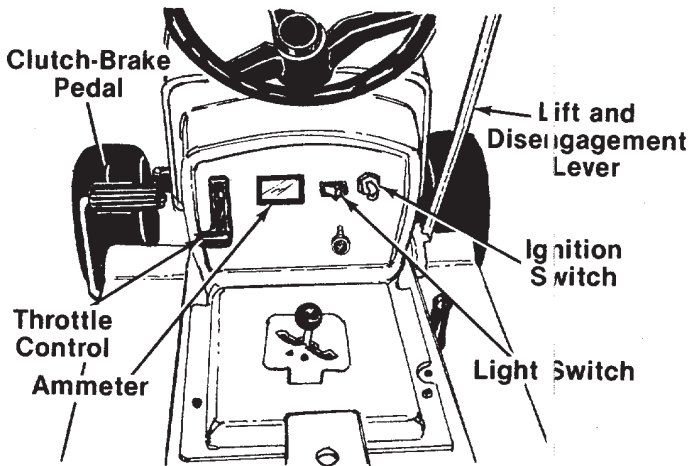

FIGURE 14.—Models 704 and 714 Shown
The throttle control is used to regulate the engine speed and to activate the choke on the engine. To get maximum efficiency from cutting, the throttle should be in the FAST position when operating the mower. Pushing the throttle all the way forward past FAST, will choke the engine. See figure 14.
The choke control is located on the dashboard and is operated manually. Details for the choke operation are covered in the separate engine manual packed with your unit. See figure 14.
The shift lever is located on the left side of the console and has three positions: "FORWARD," "NEUTRAL" and "REVERSE." See figure 14. The clutch-brake pedal must be depressed and the lawn tractor must not be moving when shifting gears. Do not force the shift lever. Release the clutch-brake pedal slightly to line up the shifting collar in the transmission. Then try to shift gears.
Turn the key to the "START" position to start the engine. When the engine is running, let the key return to the "ON" position. To stop the engine, turn the key to the left to the "OFF" position and remove it to prevent accidental starting. See figure 14.
Push the light switch to turn on the lights. The lights will only operate when the engine is running. See figure 14.
The ammeter registers the rate of battery charge or discharge. The ammeter will register on the discharging side when starting the engine. It should register on the opposite side (charging) when the engine is running in the fast position until the battery is completely charged. With a fully charged battery or with the engine idling, the ammeter will not show a charge. See figure 14.
The clutch-brake pedal is located on the left side of the lawn tractor. Depressing the clutch-brake pedal part way disengages the clutch. Pressing the pedal all the way down disengages the clutch and engages the disc brake. See figure 14.
4. Set the throttle control in the "CHOKE" position. See figure 14.
5. Turn the ignition key to the "START" position. When the engine is running, let the key return to the "ON" position. See figure 14.